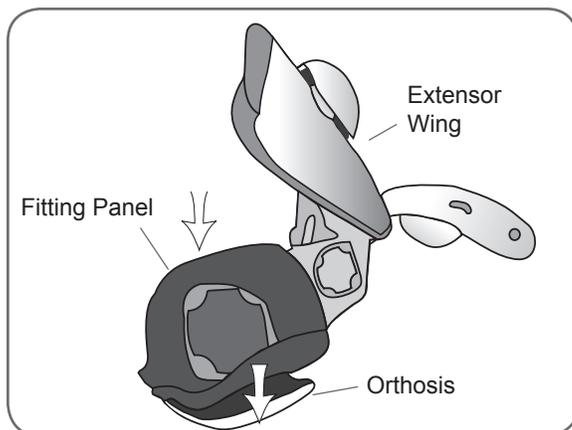

Figure 6-20: Placement of the flexor fitting panel.
2. With the Orthosis wing open, fit the flexor fitting panel to the Orthosis flexor support. See Figure 6-20.